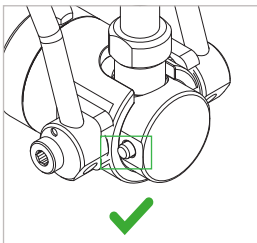

Figure 6
- Attention:** The safety peg (Pos. 5) at the connector must be extended after pressure is applied (*Figure 6*). The actuation is blocked, the connector cannot be disconnected when it is pressurized.